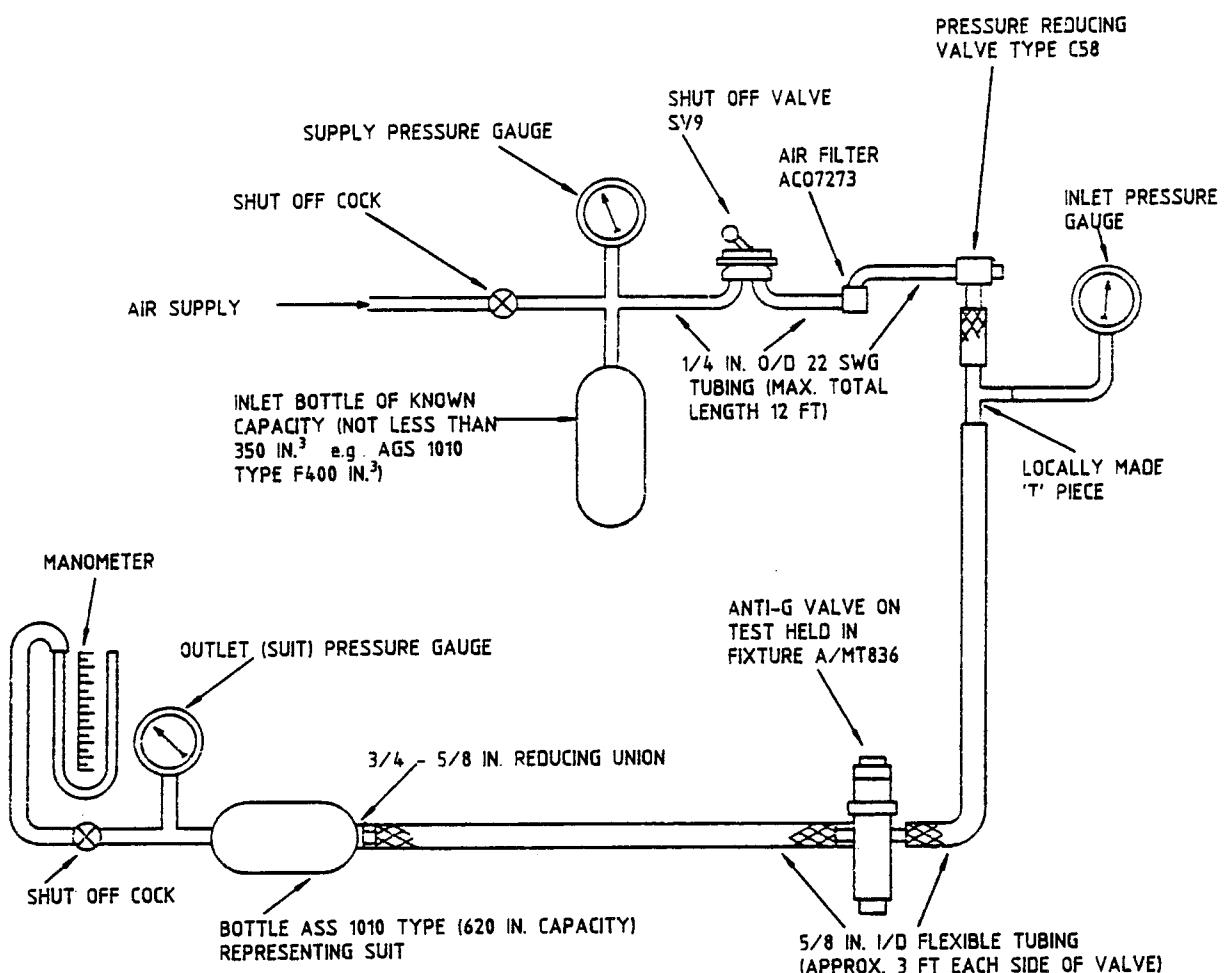

Fig 4 Test circuit
10.11 Connect the inlet connection to the test rig (Fig 4) and ensure that the valve is mounted vertical by placing a spirit level across the top of the body.
10.28 Connect the anti-g valve in the test rig (Fig 4) with the shut-off valve and the manometer stop cock closed. Ensure that the anti-g valve is vertical by placing a spirit level across the top of the valve body.
11 Paras 12 to 17 detail the tests required following dismantling, examination and assembling of the anti-g valve. A standard serviceability test consists of: Leakage test at 1g, calibration test, leakage test at 8g, cut-in and cut-out tests, inflation and deflation tests and test button check. A dynamic check is not required. During the following tests, connect the anti-g valve to the test rig (Fig 4) unless otherwise detailed and ensure that it is vertical by placing a spirit level across the top cover.
16.1 With the valve vertical and installed in the test circuit (Fig 4) ensure that the supply pressure in the test circuit is 140 to 200 lbf/in.2. Rapidly apply, but without shock, the 1g carrier and four 1g weights (giving a total of 6g) and measure the time for the outlet (suit pressure) to reach 4.5 lbf/in.2. The maximum time permitted is 3 seconds from the application of the load until the required pressure is reached with the supply pressure falling to 140 lbf/in.2.
17 With the valve in the test rig (Fig 4), and the pressure reducing valve controlling at 20 lbf/in.2, depress the test button to its limit. Repeat three times, and on each release the button must return freely and allow suit pressure to exhaust.